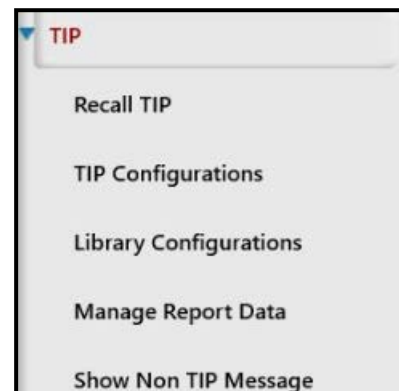

Figure 167: TIP Menu
- Figure 167.
- TIP** has three (4) selections:
- Select **TIP Configurations** from the **TIP** menu, (ref: Figure 167).
- Figure 167).